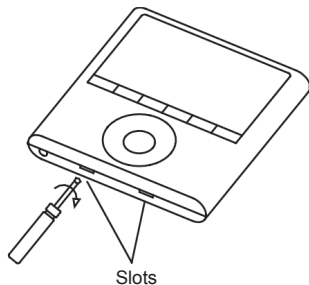

Fig 3-4
- Remove the upper part of the wire controller (Fig 3-4).